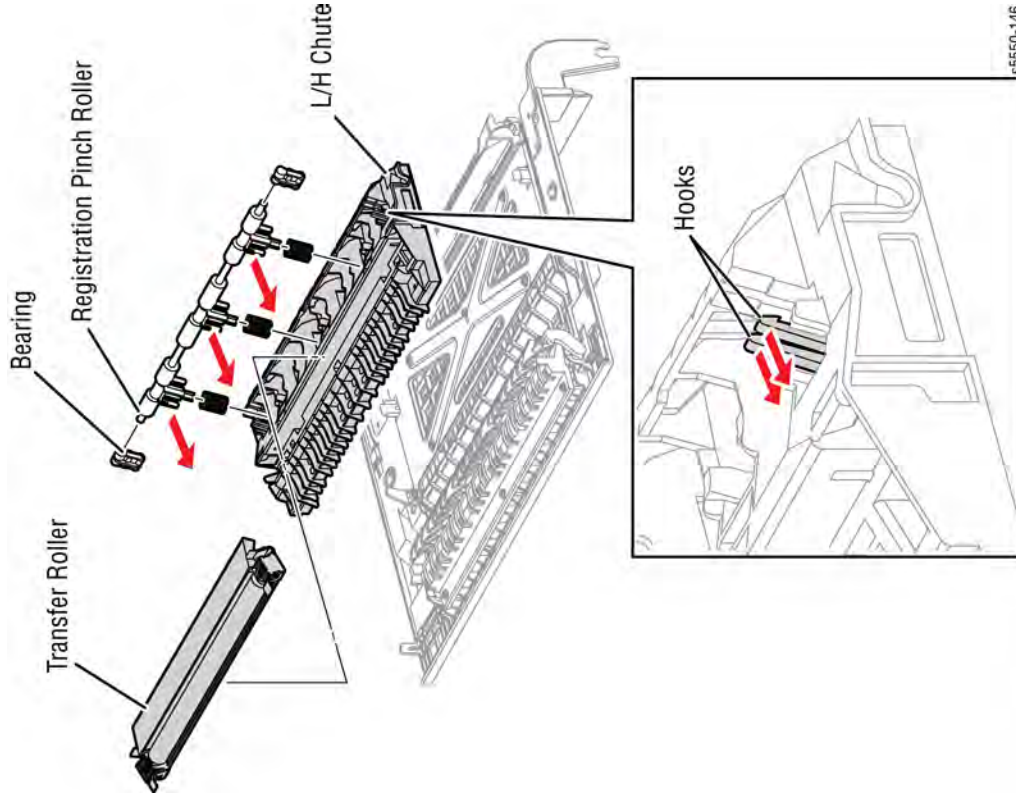

Figure 2 Removing the Registration Rollers
- Remove the hooks of the two Pinch Out Bearings on the left and right securing the Registration Rollers to the Chute as shown in Figure 2.